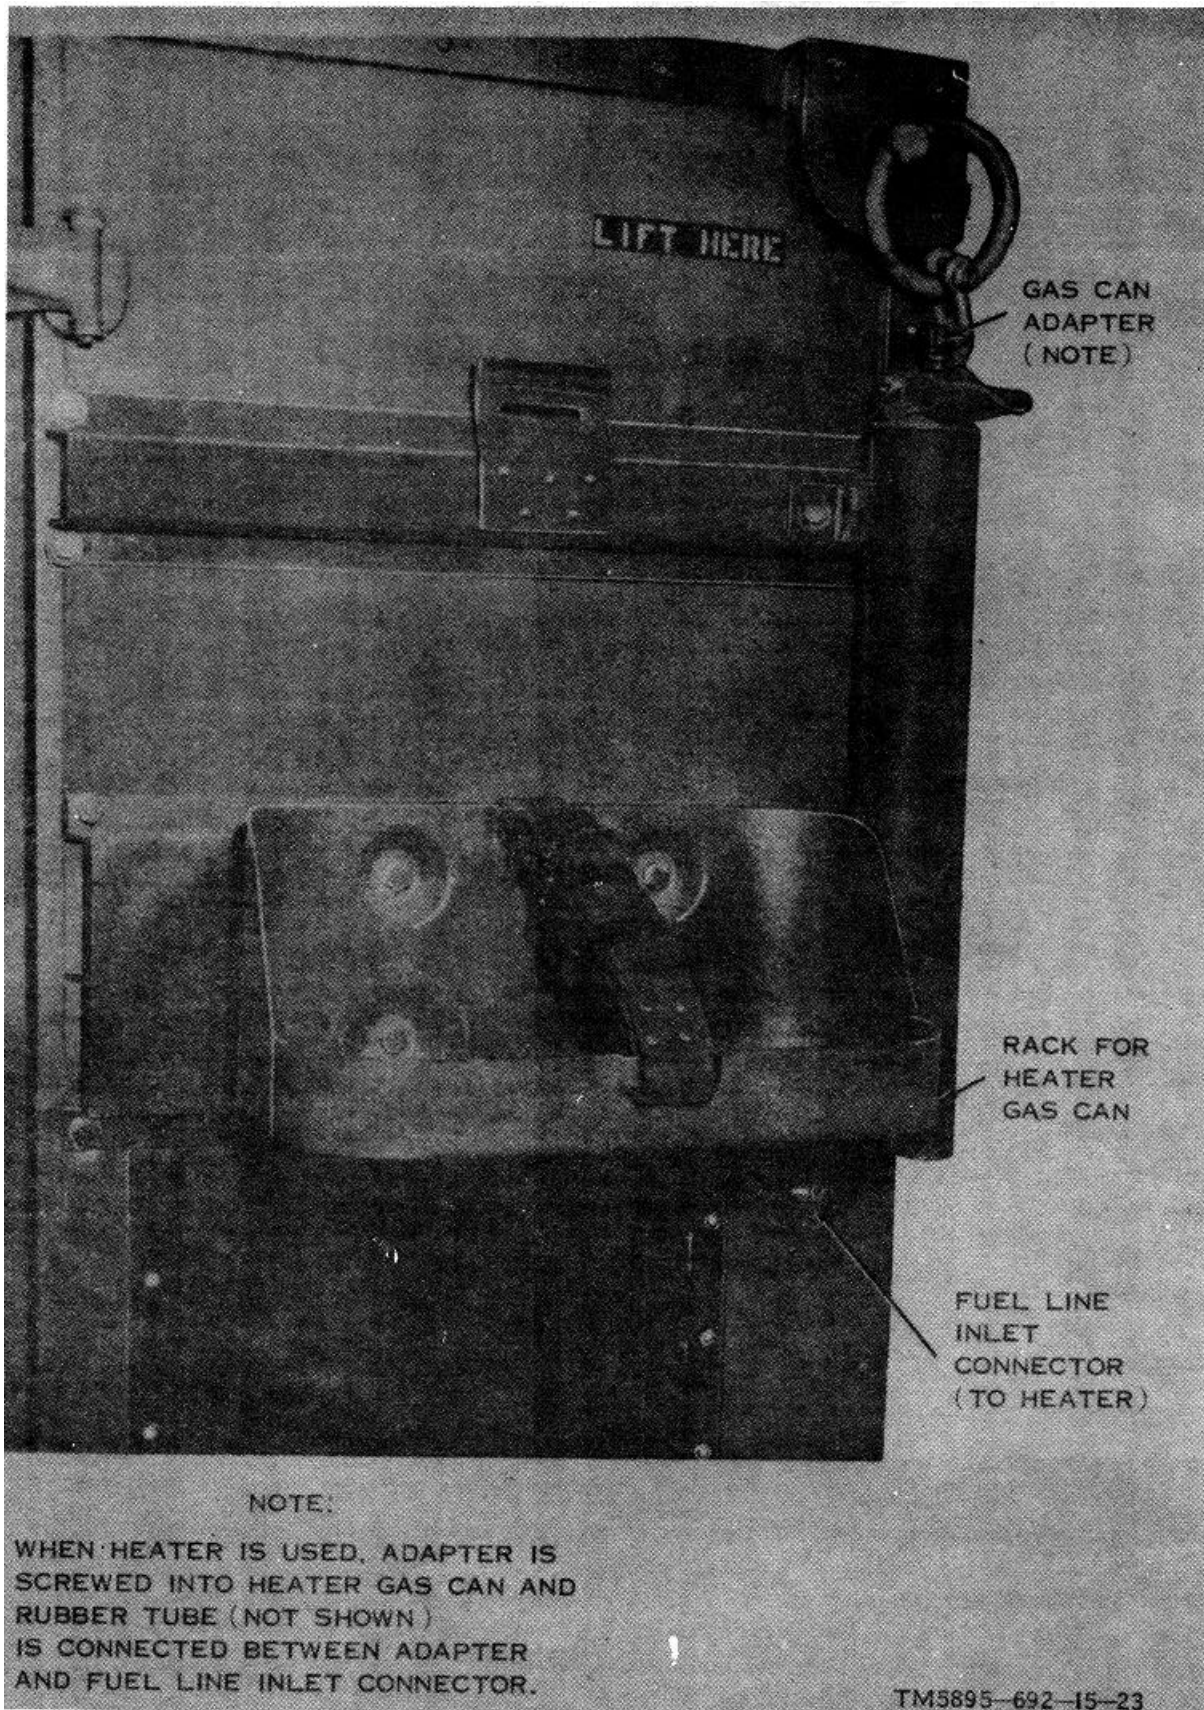
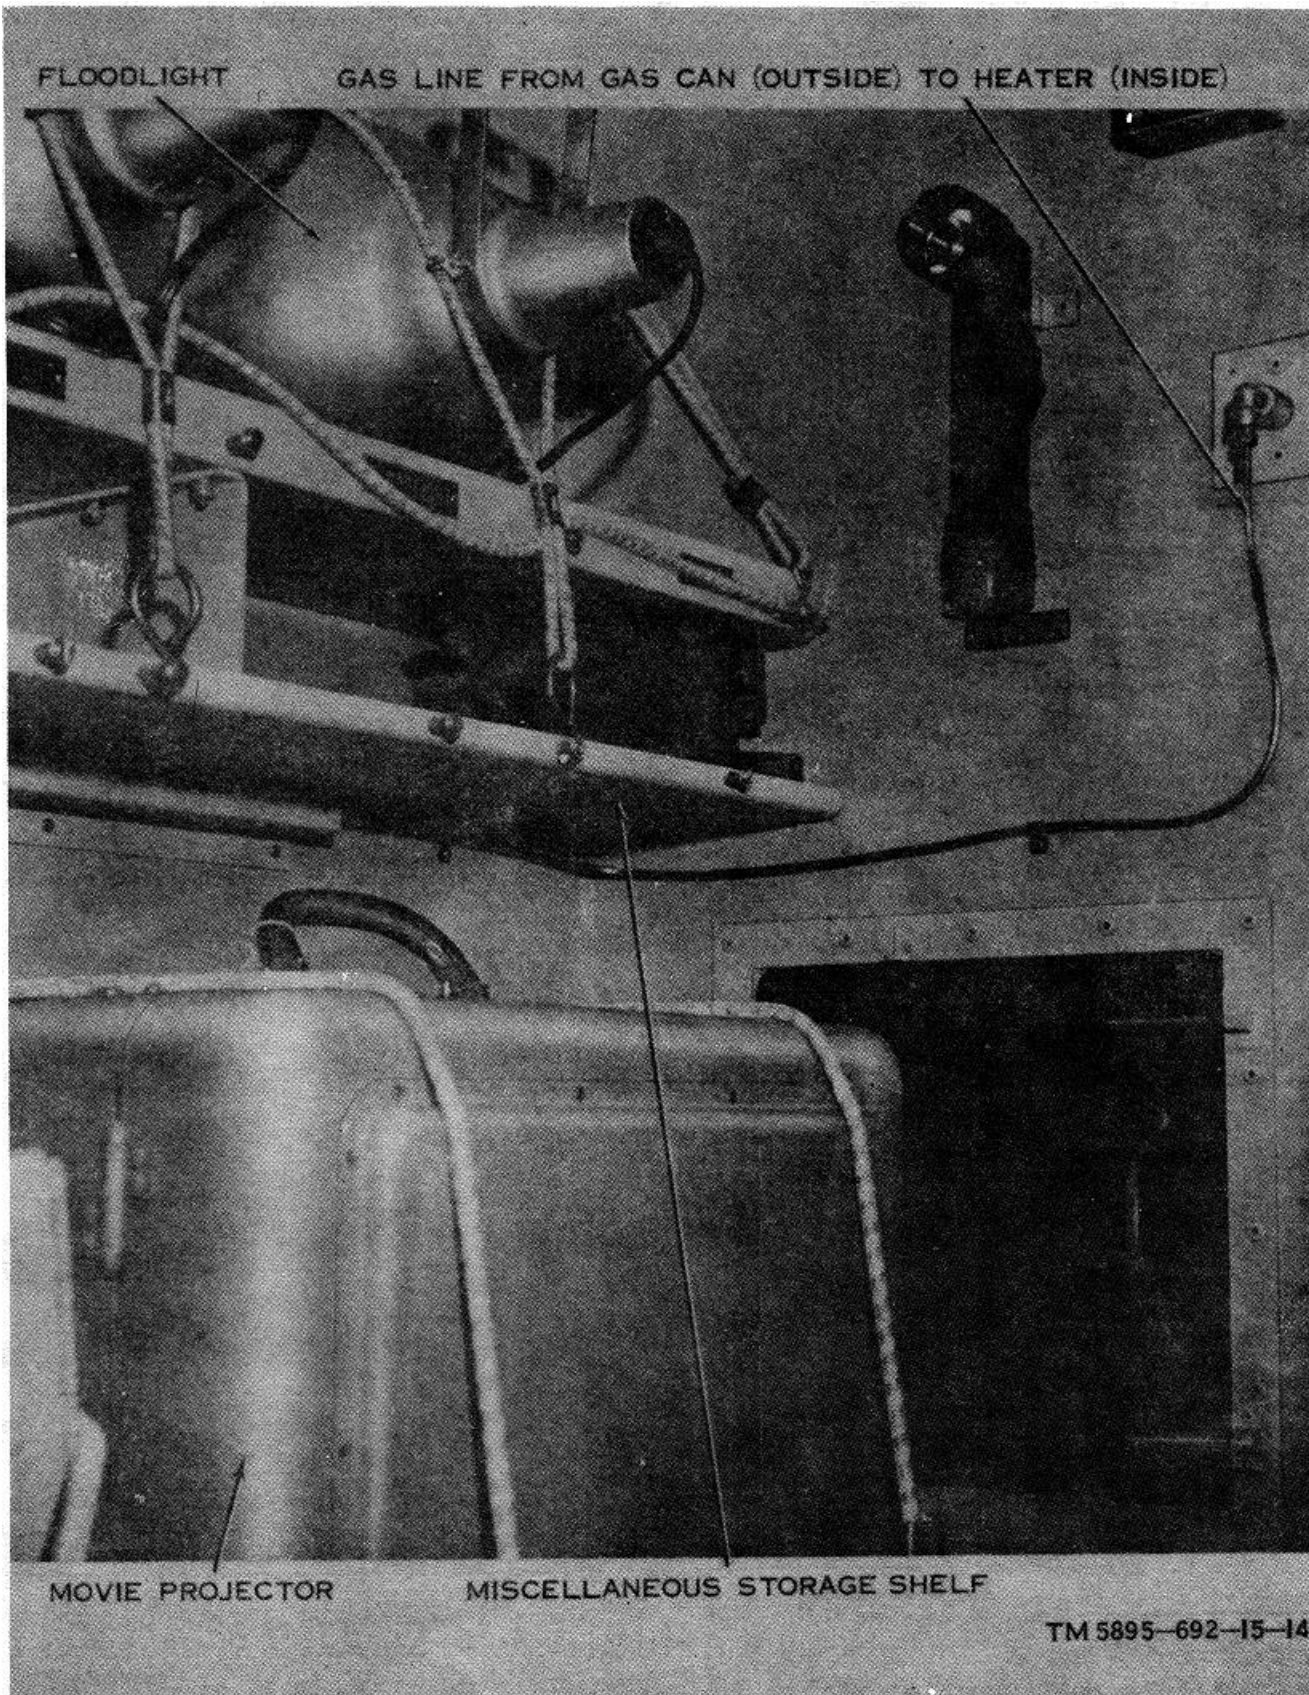

Figure 1-9. Heater gas can rack and gas can adapter.
Figure 1-10. Inside shelter, movie project area
(4) *Gasoline storage.* A 5-gallon gas can, mounted on a rack at the rear of the shelter (fig. 1-9), contains the heater fuel. An adapter provides connection from the heater gas can to the tubing which leads to the heater (fig. 1-10). Three 5-gallon gas cans, mounted in the rack at the rear of the shelter (fig. 1-2), provide storage for the power unit fuel.
- (1) *Heater items (fig. 1-9).*